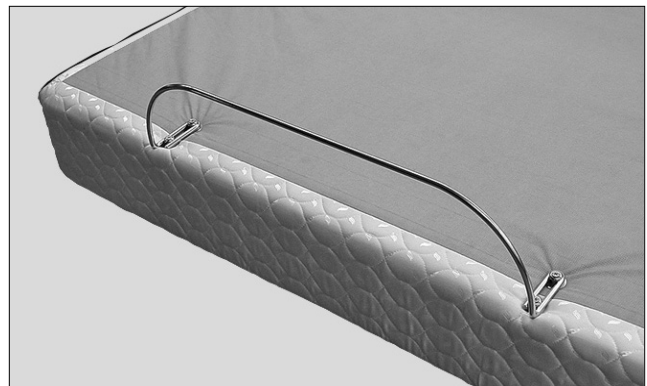

FIGURE 6: Typical mattress retainer installed.
- g. Tighten screws to complete mattress retainer installation (FIGURE 6).